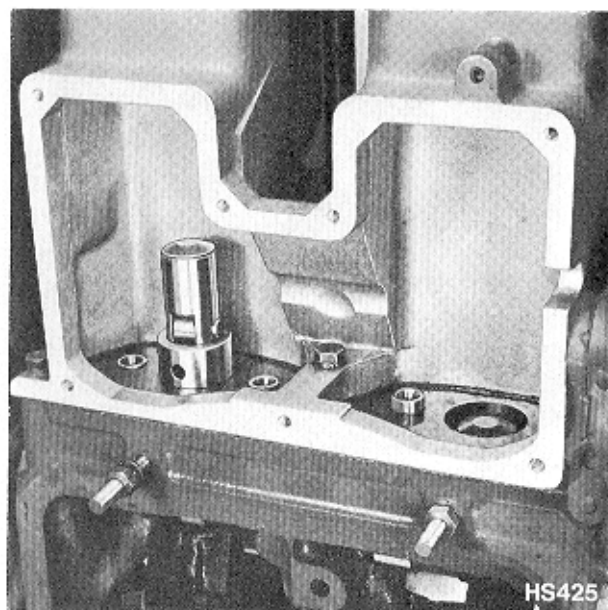

Fig. 58 Fuel Pump Tappet & Guide
- (h) Remove fuel pump tappet guide locating pins (located on the side of the crankcase above the crankcase door). Lift out tappet assemblies and guides (Fig. 58).